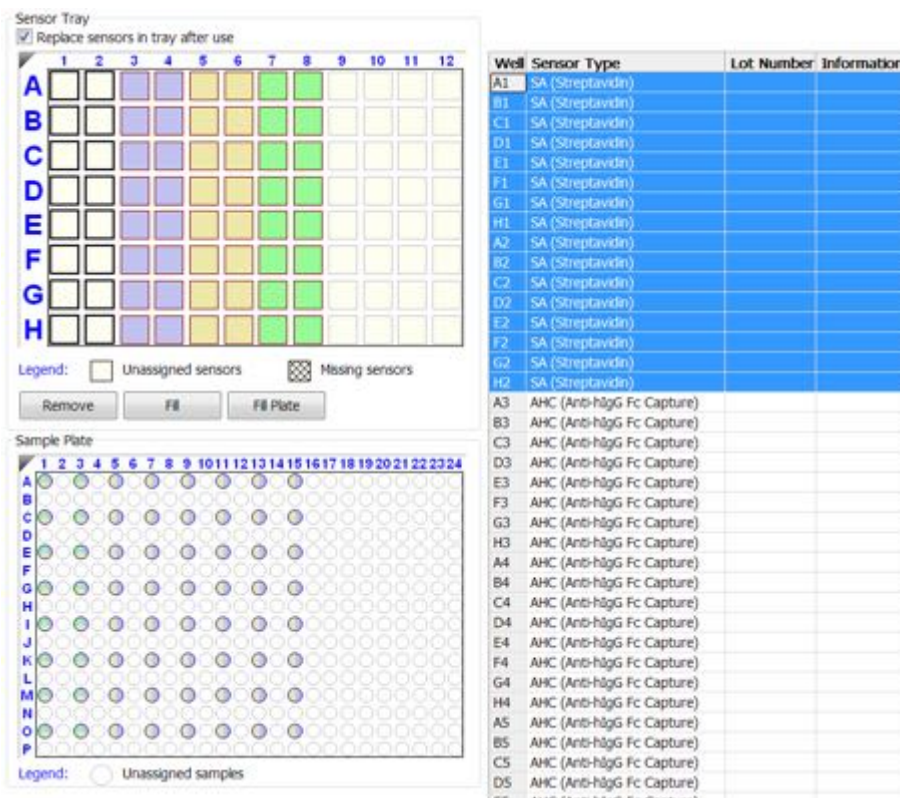

Figure 10-58: Assay Sensor Type Reassignment
- 2. Right-click in the **Sensor Tray Map** or click in a cell in the **Sensor Type** table column and select a biosensor type from the drop-down list. The biosensor type associated with the assay will shift location accordingly (see Figure 10-58). In the example shown, AHC is the **Sensor Type** used for the current assay. Columns 1 and 2 were reassigned as Streptavidin according to the heterogeneous tray being used.